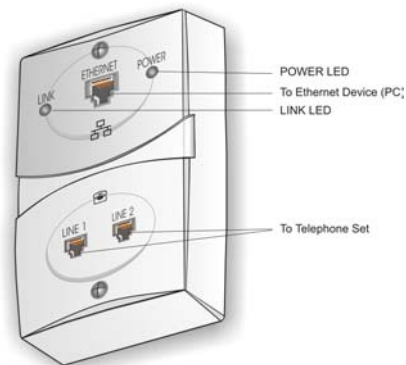

Figure 2.24: SercoNet Smart Outlet™ Front Panel
- Step 8** Check the Smart Outlet™ LED indicators. (See Figure 2.24).